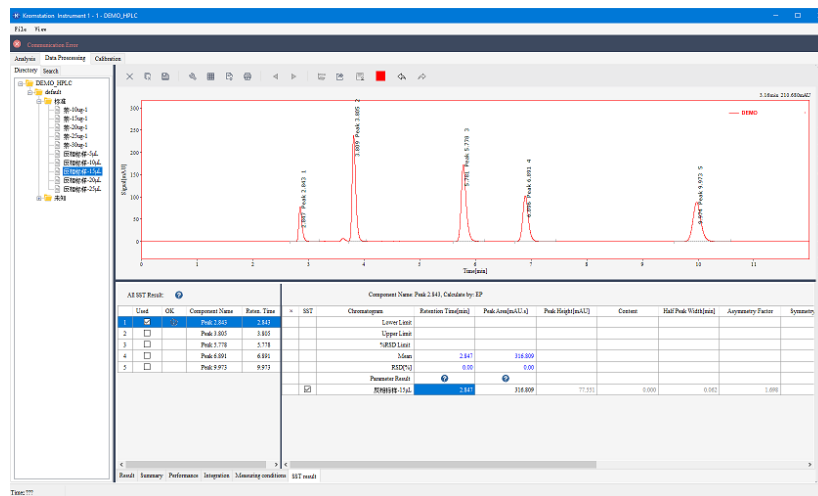

Figure 6-23 Parameter display in the SST result table
9) After selecting the parameters, in the SST result table, the "average value" and "RSD%" will be given for the selected parameters, as shown in Figure 6-23.